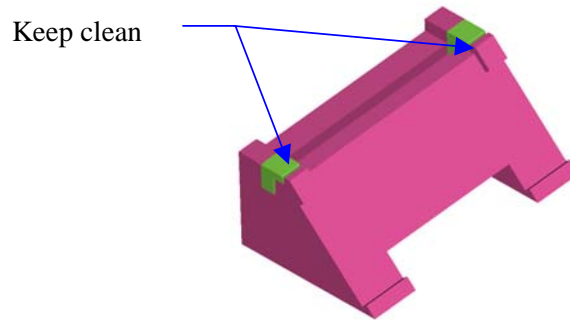

Figure 8: Cleaning Stage
7.3.1 Exam the cleaning stage for the cleanliness. See figure 8 below